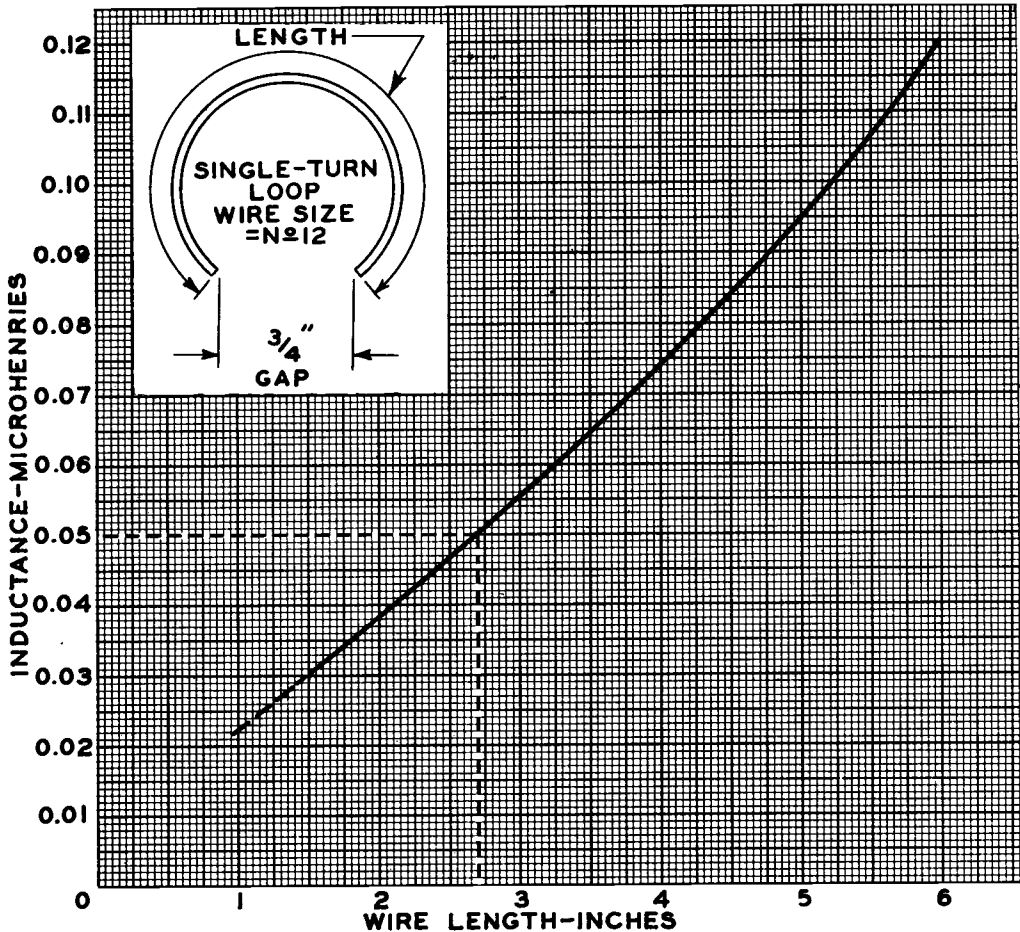
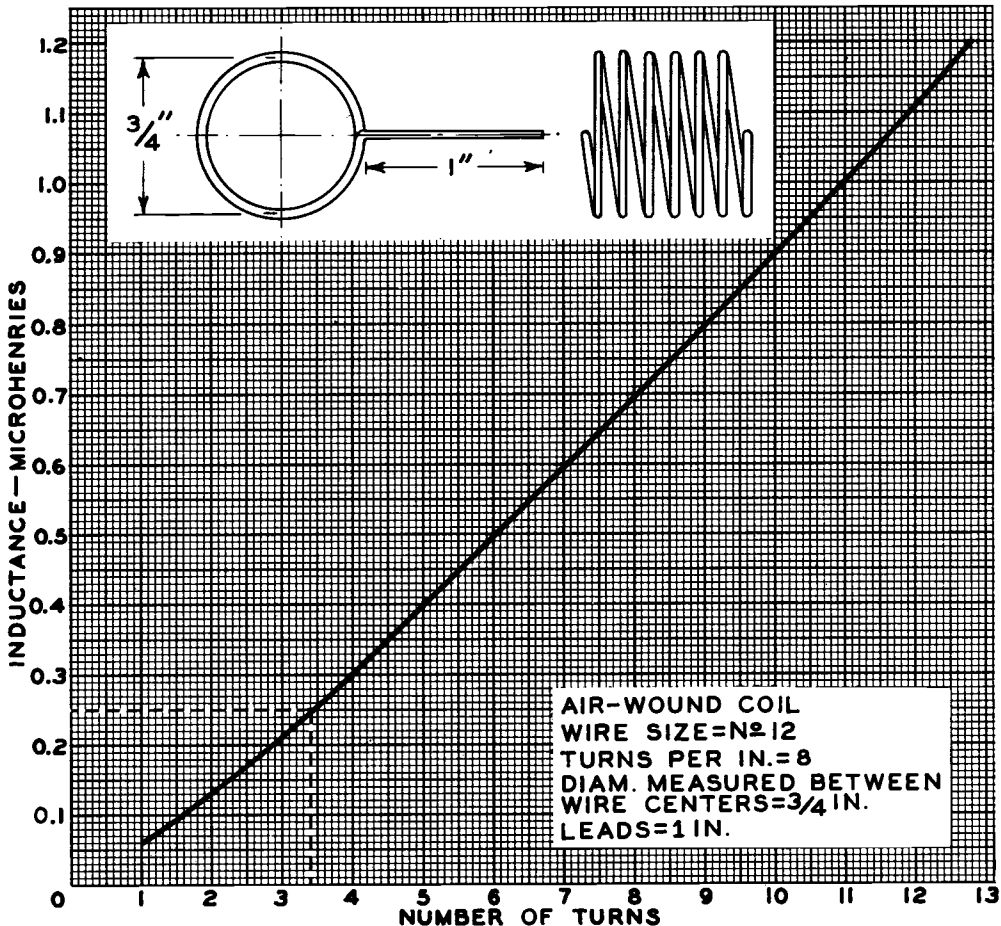

Fig. 1. Curve for determining the dimensions of a single-turn, flat loop (for inductance values of 0.03 to 0.1  $\mu$ h).
Fig. 2. Curve for determining the number of turns for inductance values greater than 0.1  $\mu$ h.
A single-turn flat loop as shown in Fig. 1 is satisfactory for an inductance of 0.03 to 0.1  $\mu$ h. For inductances greater than 0.1  $\mu$ h, the inductor may be wound as a conventional coil having several turns, as shown in Fig. 2, in order to conserve space and to maintain a reasonable Q.
**Example 1.** The dimensions of a 0.05- $\mu$ h inductor can be found from Fig. 1. The dashed lines indicate how the wire length (2.7 inches) can be read from the curve opposite the inductance of 0.05  $\mu$ h. This length of No. 12 wire, when formed into a single-turn flat loop having a ¾-inch gap between the ends of the
wire as shown in Fig. 1, will have an inductance of 0.05  $\mu$ h.
**Example 2.** If a 0.25- $\mu$ h inductor is required, the number of turns can be determined from Fig. 2 as shown by the dashed lines. If 3.4 turns of No. 12 wire are wound with a pitch of eight turns per inch and the diameter of
the coil is  $\frac{3}{4}$  inch (measured from the center of the wire as shown in *Fig. 2*), the coil will have an inductance of approximately  $0.25 \mu\text{h}$  (including the inductance of the one-inch leads).
Coils wound in accordance with *Figures 1* and *2* are sufficiently accurate for most TVI applications; they may be soldered into a low-pass filter without further adjustment.